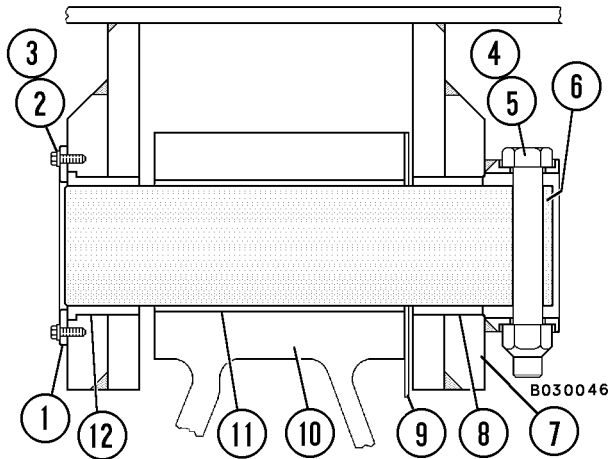

FIGURE 3-3. DUMP BODY PIVOT PIN
5. Remove cap screws (4, Figure 3-3) and locknuts (5) from each pivot pin.
6. Remove body pivot pins (6) far enough to allow shims (9) to drop out. Complete removal is not necessary unless a new pin is to be installed.
3. Install shims (9, Figure 3-3) in both body pivots, as required, to fill the outside gaps and center the body on the frame pivot. **Do not install shims at the inside.**
3. Position radiator assembly to equalize gap between tip of fan blades and shroud at right and left sides. Install mounting hardware (2, Figure 3-3) through lower mounts and tighten to **298 N·m (220 ft lbs)** torque.